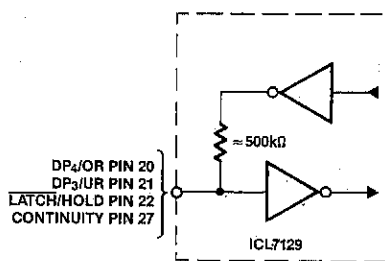

Figure 7. "Weak Output"
Four of the pins of the ICL7129 can be used as either inputs or outputs. The specific pin numbers and functions are described on the Pin Assignments and Functions (Table 1). If the output function of the pin is not desired in an application it can easily be overridden by connecting the pin to V^+ (HI) or DGND (LO). This connection will not damage the device because the output impedance of these pins is quite high. A simplified schematic of these input/output pins is shown in Figure 7. Since there is approximately $500k\Omega$ in series with the output driver, the pin (when used as an output) can only drive very light loads such as 4000 series, 74CXX-type CMOS logic, or other high input impedance devices. The output drive capability of these four pins is limited to $3\mu A$, nominally.